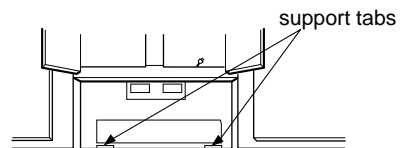
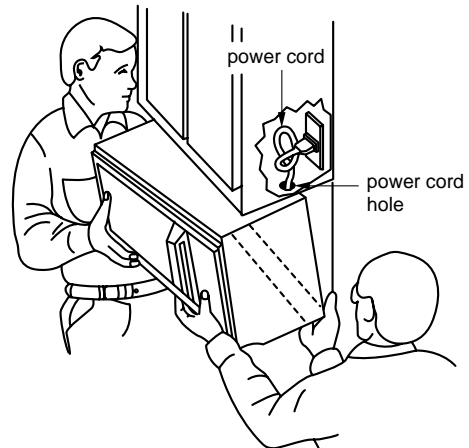

Figure 23
Figure 26
1. Carefully lift microwave oven and hang it on support tabs (See Figure 23, page 14) at the bottom of the mounting plate. Reaching through upper cabinet, thread power supply cord through the power supply cord hole in the bottom of the upper cabinet. See Figure 26.